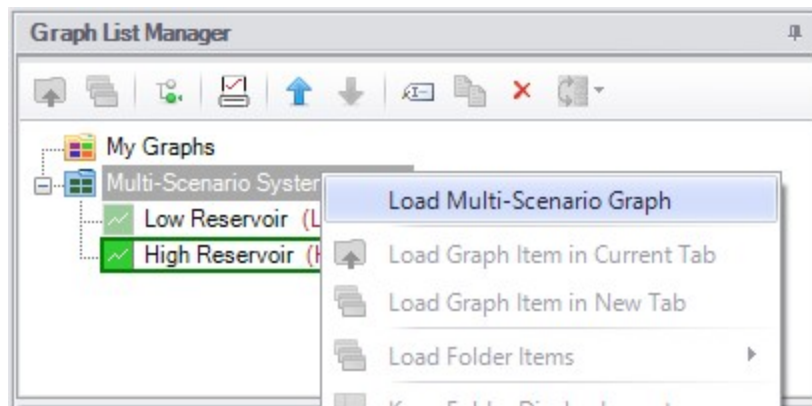

Figure 3: A Multi-Scenario Graph can be loaded from a Multi-Scenario graph folder
5. When all of the individual Pump vs. System curves have been added to the folder, right-click on the folder name and choose "Load Multi-Scenario Graph," as is shown in Figure 3.